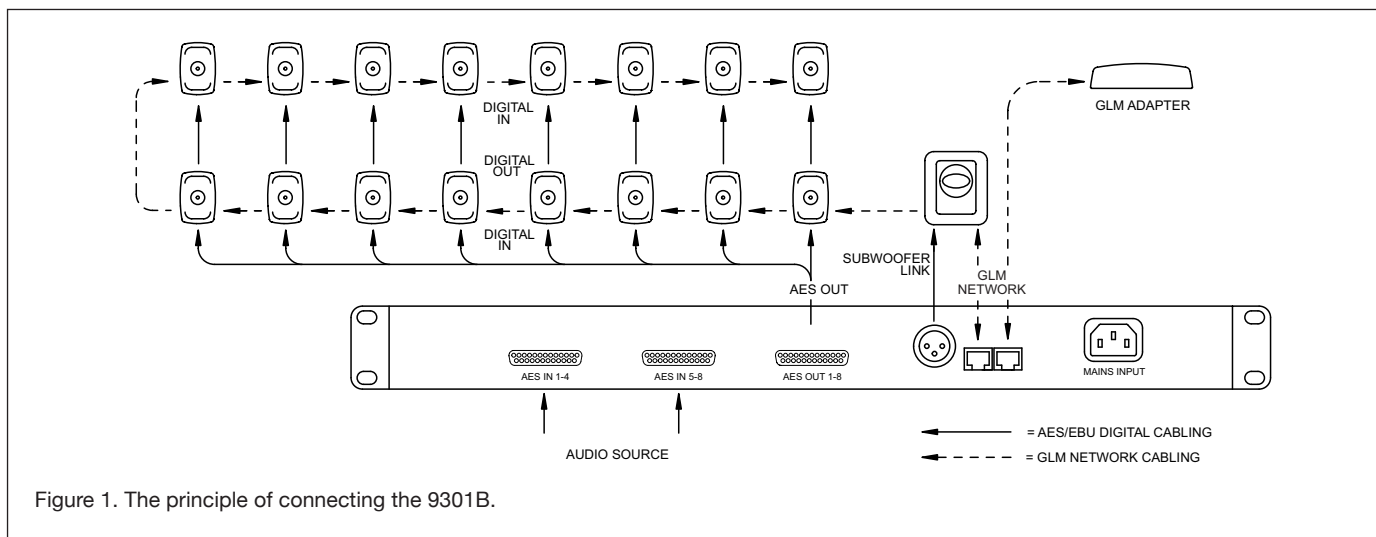

Figure 1. The principle of connecting the 9301B.
The digital audio input connections for AES/EBU digital audio use two DB25 connectors. If LFE signal is in use, the channel and subframe carrying the LFE channel is assigned in the GLM software (See Figure 1 overleaf).
- Connect CAT5 (RJ45) cables between the 9301B, every monitor and subwoofer. Finally connect to the GLM Adapter device (see Figure 1). The order of connecting devices is not significant. Connect the GLM Adapter device to computer USB connector.